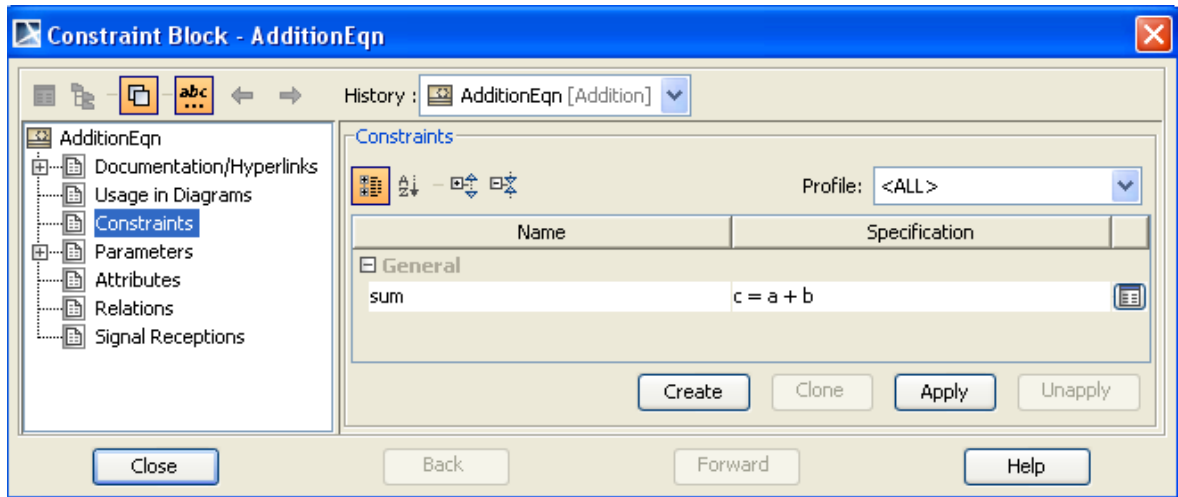

Figure 2.9 Constraint Block window showing Constraint
- i. In the window labeled Constraint Block – AdditionEqn (Figure 2.9),